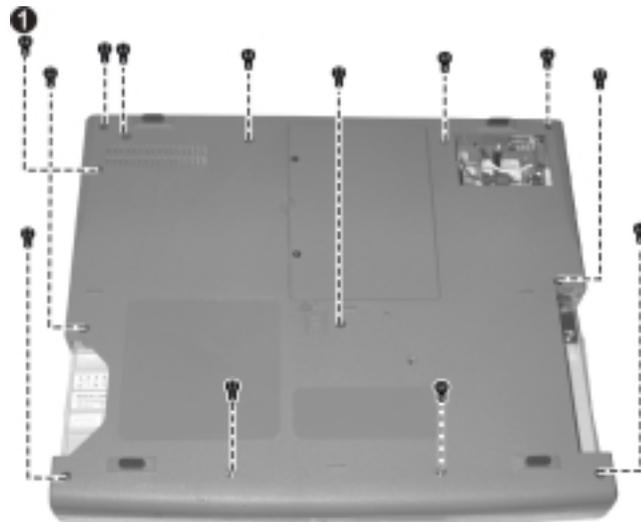

Figure 2-16
5. Remove one screw locking the CD-ROM (❶), and then the other twelve screws locking the base unit frame. (figure 2-16) Now you can lift the base unit frame up.